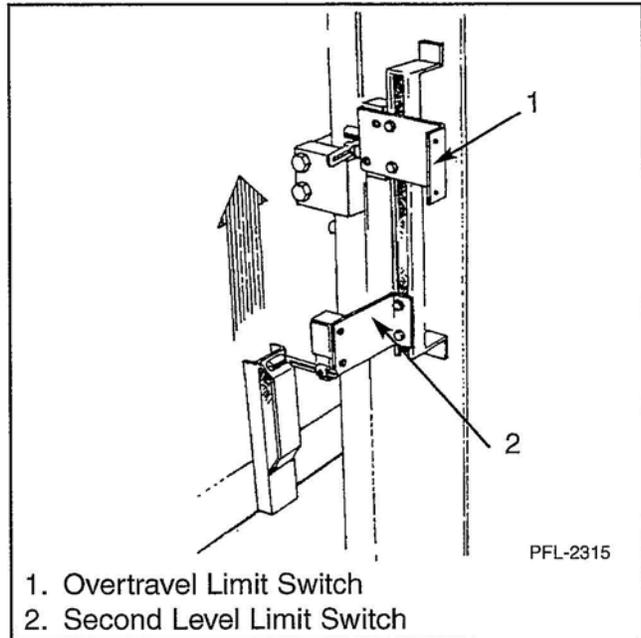

Figure 37
46. Install second level limit switch. See Figure 37.